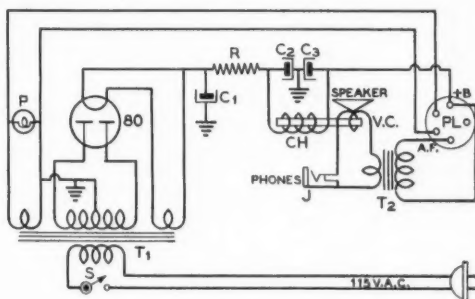

Figure 2
Figure 2. Three methods of obtaining a tone for i.c.w. The system of "C" is essentially the same as that of "B" except that a d.p.d.t. switch makes it unnecessary to plug the mike and key plugs in and out when changing from voice to i.c.w.
Unfortunately my work contains an error: although the general principle of obtaining perfect balance by making  $R_1$  (in figure 2 on page 46) slightly larger than  $R_2$  is perfectly correct, and so are each of equations (1), (2), (3), and (4) on page 89, the definitions given for the ratios  $\alpha$  and  $\beta$  are incorrect. Moreover this incorrect definition had the effect of yielding a wrong value for  $R_1$  in the 6SC7 case on page 89.
Denote the voltage between point (A) in figure 2 on page 46 and ground by  $a$ , so that  $a$  is the actual input voltage to tube  $T_2$ . Now  $E_b$  is the output voltage from  $T_2$ ; since the voltage gain of  $T_2$  is  $m$  we must have